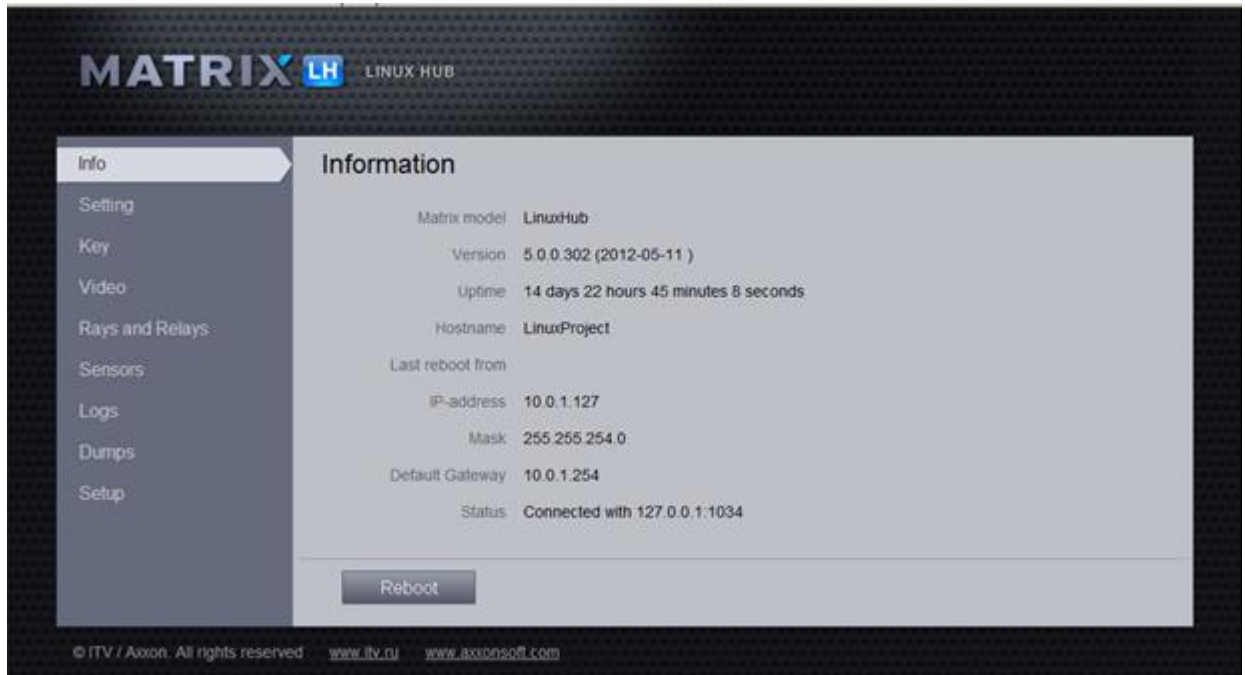

Figure 7.3-1 The LS (LH) Web interface home page (Info tab)
1. Viewing video received from the cameras connected to the LS (LH);
2. Monitoring the LS (LH) operability;
3. Configuration of the LS (LH) network parameters;
4. Resetting the LS (LH) configuration;
5. Updating the LS (LH) firmware;
6. Downloading the activation key to the LS (LH).
To open the LS (LH) Web interface, enter the IP-address of the required LS (LH) into the address line of the browser. The Web interface home page will load (Figure 7.3-1).